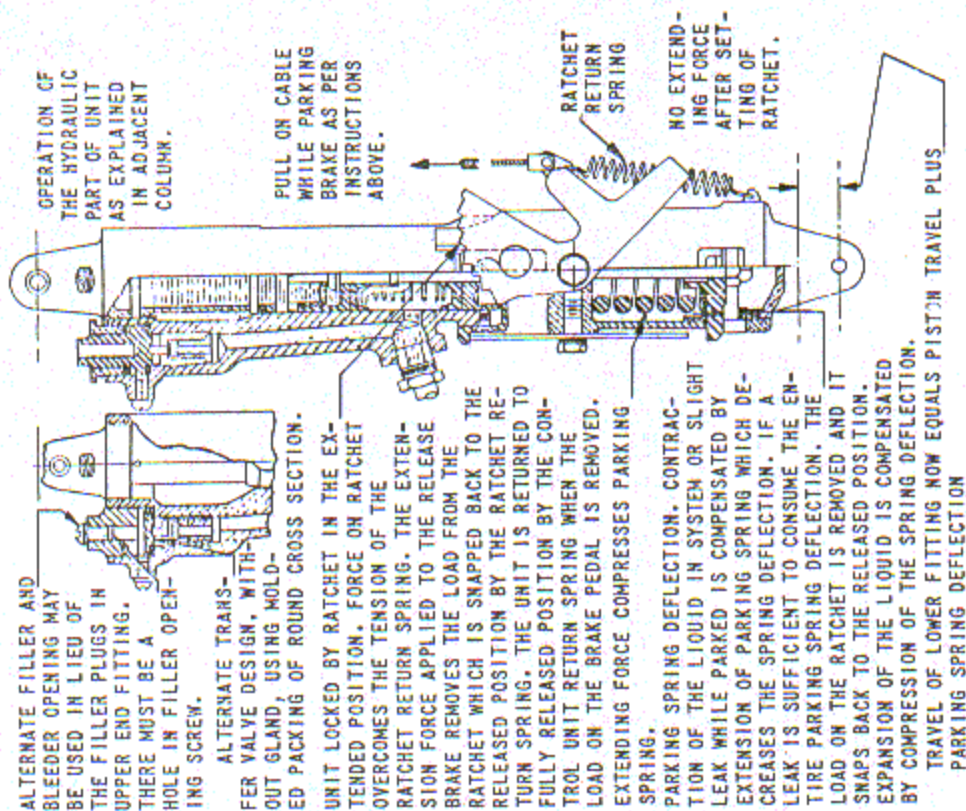

FIG. 42 - BRAKE MASTER CYLINDER - DETAIL OPERATION
(2) Detailed Operation of Brake Master Cylinder Units: The views on Figure 42 show the operation of the master cylinder unit when following the filling procedure recommended by the manufacturer of the unit as given on Figure 43. A description of the different views follows: